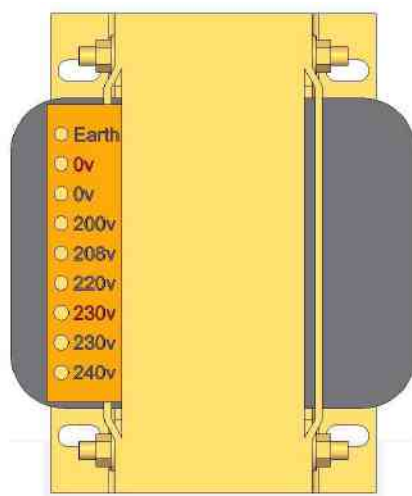

Figure 8 – Transformer showing different electrical supply connections
- With reference to Figure 8, change the position of wire 30 (W30) and wire 31 (W31) so that they are in the correct position for your electrical supply. Ensure the connections are fully tightened. **Do not move the wires attached to the red 0 V and 230 V connectors, as these provide power to the secondary stepper motor transformer and are not part of the procedure.**